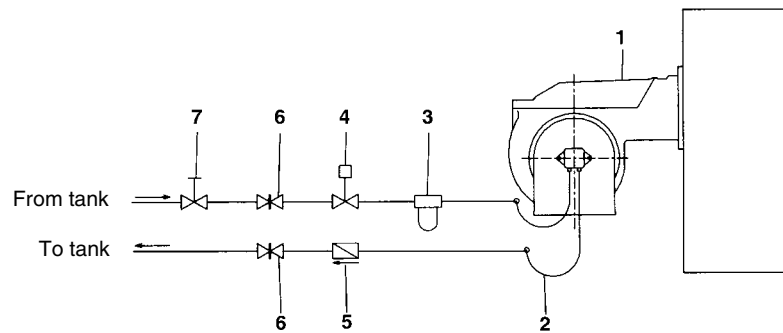

Fig. 7 - Double-pipe system
**NOTE:** in plants where gravity or ring feed systems are provided, install an automatic interception device (see n. 4-Fig. 7).